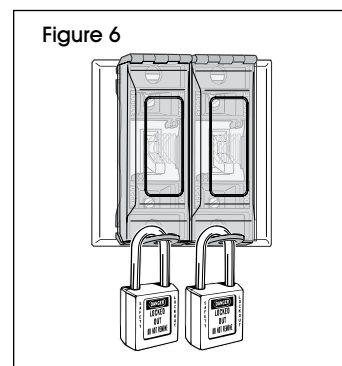

Figure 6
- Move switch to either off or on position. Close cover. Apply safety padlock. (See Figure 6)